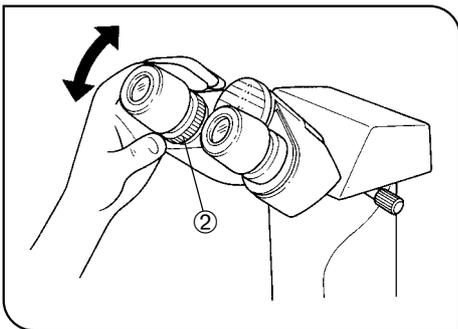

Fig. 26
2. While looking through the left eyepiece with your left eye, turn only the diopter adjustment ring ② to focus on the specimen. (Fig. 26)